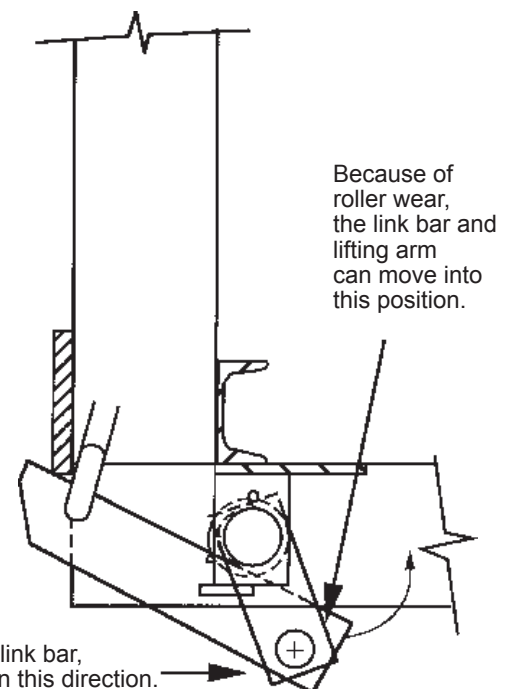

Fig. 1-11– Unusual Link Bar Position Caused by Roller Wear
If the rollers are worn, one of the link bars may be allowed to swing into or hang in the position shown in Fig. 1-11. This will prevent one of the brake mechanisms from resetting.
To reset one of the brake mechanisms, insert the maintenance devices as shown in Fig. 1-16. Go to the rear of the lift and work from inside the frame of the tower. *Never stand under the lift platform as you reset the brakes.* Force the link bar forward, toward the front of the lift, as shown in Fig. 1-11.
If the rollers are worn, one of the link bars may be allowed to swing into the position shown in Fig. 1-11. This will prevent one of the brake mechanisms from resetting.
2. Lower the lift platform and check that the cylinder is completely bottomed out. It is important that the platform be resting on the floor when you make this adjustment. Use the manual lowering valve to be sure the cylinder is completely bottomed out. (This control will energize the down valve and release the pressure from the hydraulic ram.) The brake link pin should be in the position shown in Fig. 1-17. (If the adjustment is incorrect, the brake link may be in the position shown in Fig. 1-17, or could snap into the position shown in Fig. 1-11.) If the brake mechanism is out of position, try to reset it by lifting and lowering the lift platform. You may also need to reset it as shown in Fig. 1-11. Remember to stay out from under the lift platform as you do this.